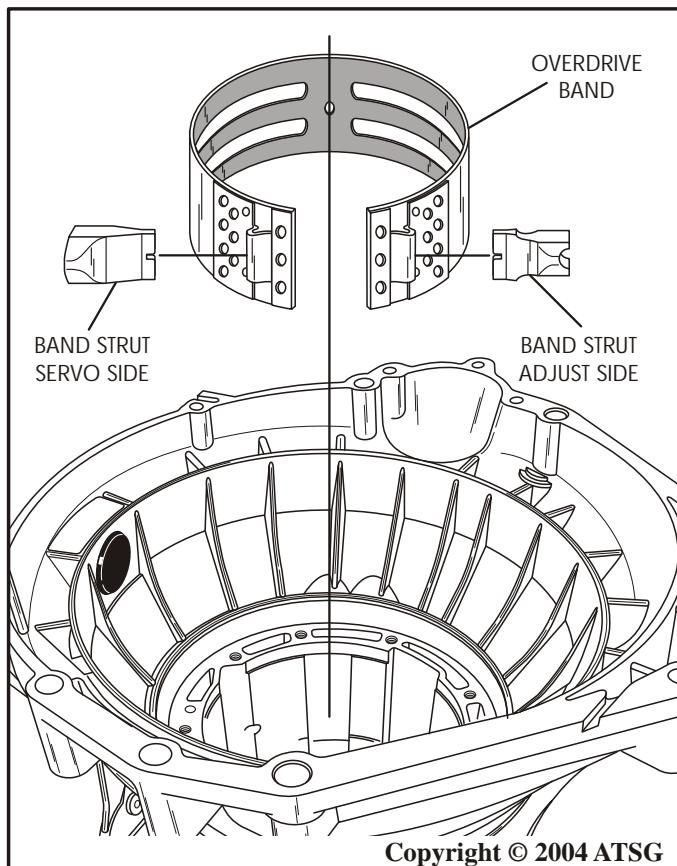

Figure 38
32. Remove the overdrive band assembly and both band struts, as shown in Figure 38.
- Note: Notice the difference in the band struts and which side they are located, as shown in Figure 38.**